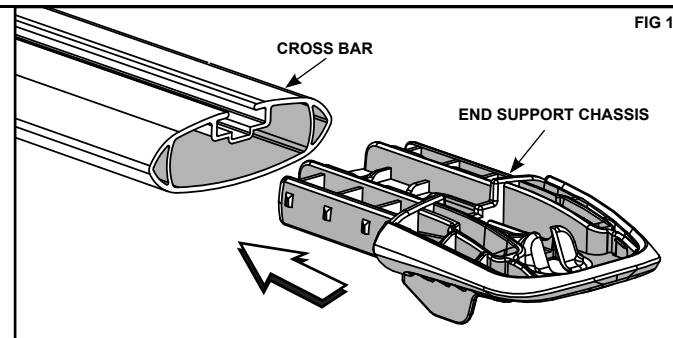

FIG 1
2. Pre-assemble the End Supports Chassis into Cross Bars. They are designed to be a tight fit: Use a rubber mallet if necessary (Fig.1).